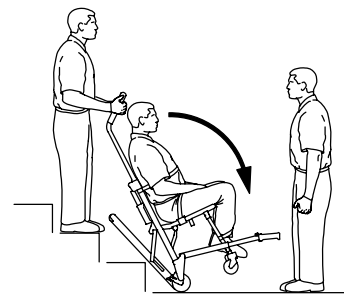

**Figure 11 – Transporting down the stairs**
8. Both operators: Glide down the stairs until the treads are level across the edges of two or three steps (Figure 11).